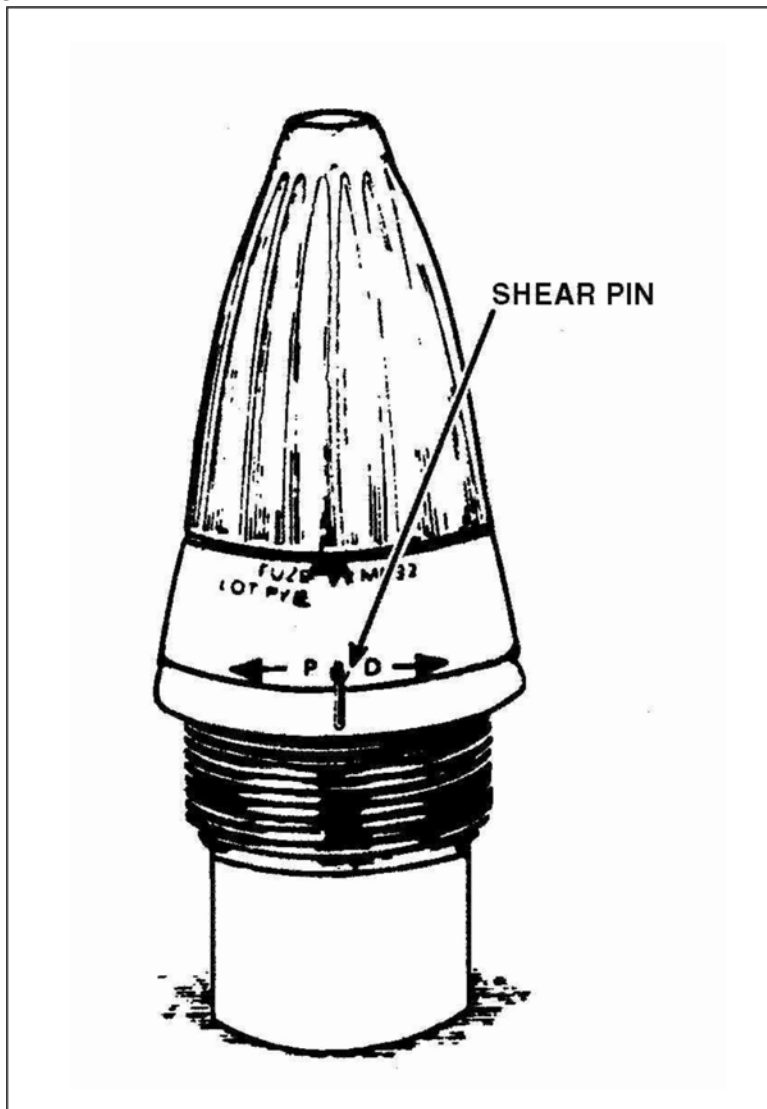

Figure 3. M532 Fuze
- (1) To prepare for firing, turn the slot in the striker to align with the SQ index for "super quick" or D index for "delay" on the fuse body, depending upon which action of fuse is desired.
- (2) Just before insertion of round into the mortar, remove the safety pull wire, which removes both safety pins.
- (3) The M524A5 does not arm for at least 1.25 seconds after firing, but arms within 2.5 seconds after firing.
- b. M532 (proximity) (Figure 3).